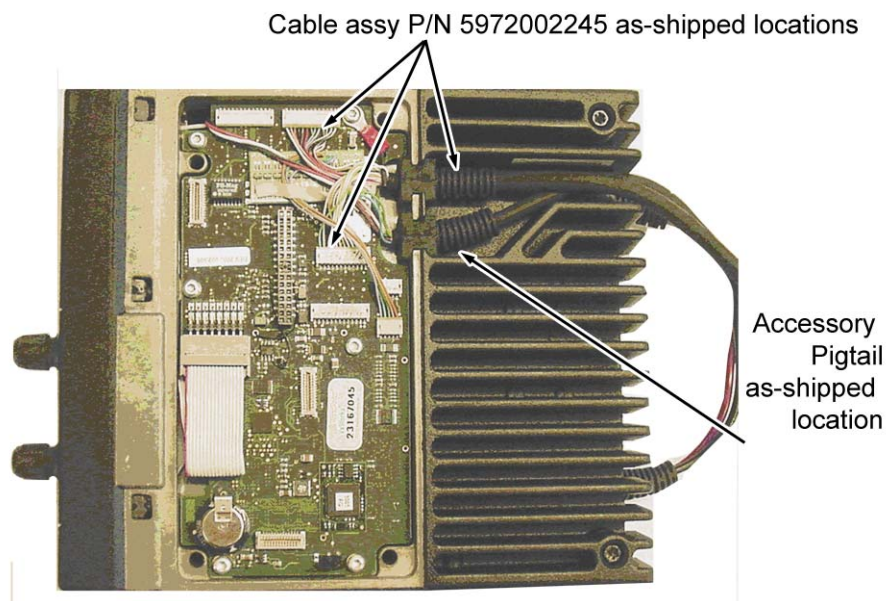
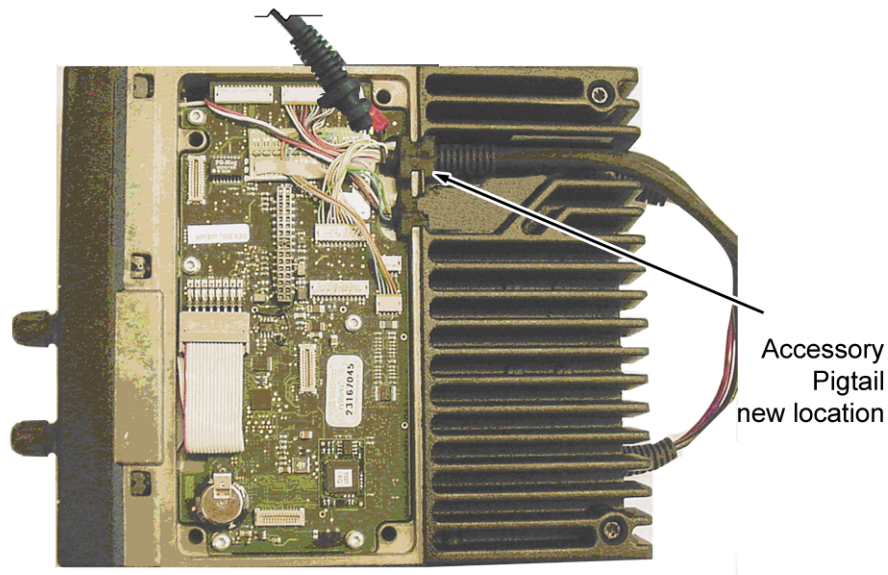
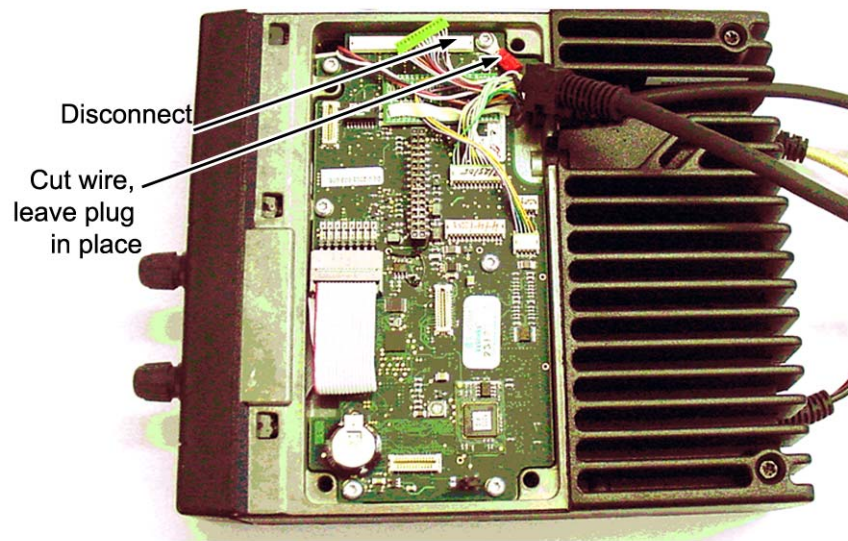
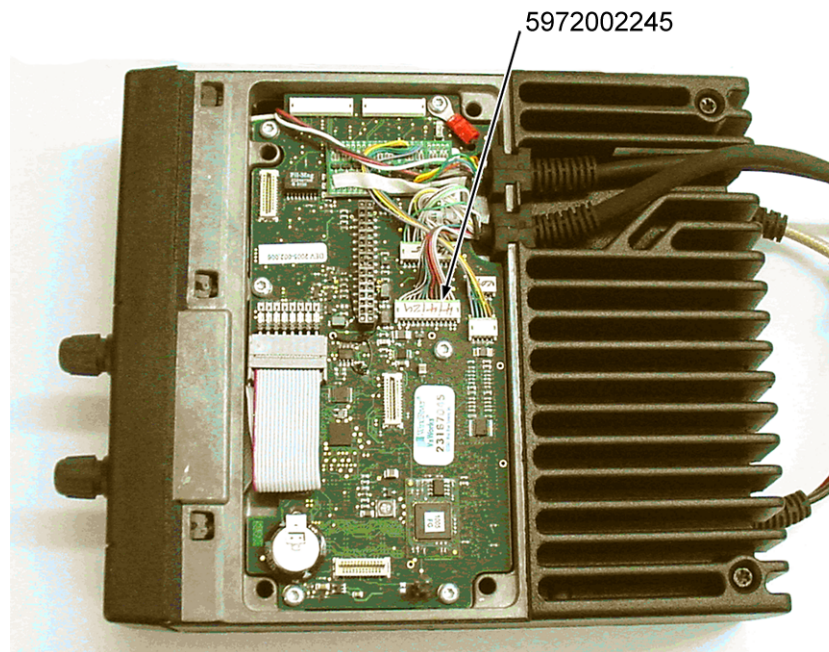

FIGURE 5. RS5300 Bottom Access Panel
FIGURE 6. RS5300 Accessory Pigtail Cable Relocation
FIGURE 7. Disconnect and Lug Wire
FIGURE 8. New Header Location
The following cable connections are shown in Figure 5, Figure 6, Figure 7 and Figure 8.
In addition to the channel type, talk groups and frequencies dictated by the specific installation, radio buttons F4, F5 and F6 are required to be specifically programmed for control by C-Soft. Figure 5 Shows the location of each control button on the RS5300 radio.
Figure 7 shows a typical C-Soft screen configuration to control the EF Johnson RS5300 radio. Place a button on the screen then right click to configure any button for a task. Use the UI Element Function pull down menu to assign a function.
- The level should be near, but below 0dBm reference from the test point to ground (TP14, near TP13). This should result in audio levels from the radio at -5dBm to -10dBm as shown in Figure 8.